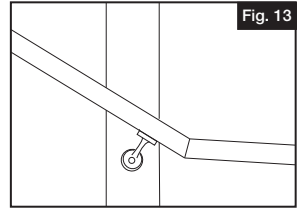

Fig. 13
1. Measure the angle of the joint and cut lineals accordingly. Dry fit both Handrail lineals, making sure that the miter cuts match properly (Fig. 13).